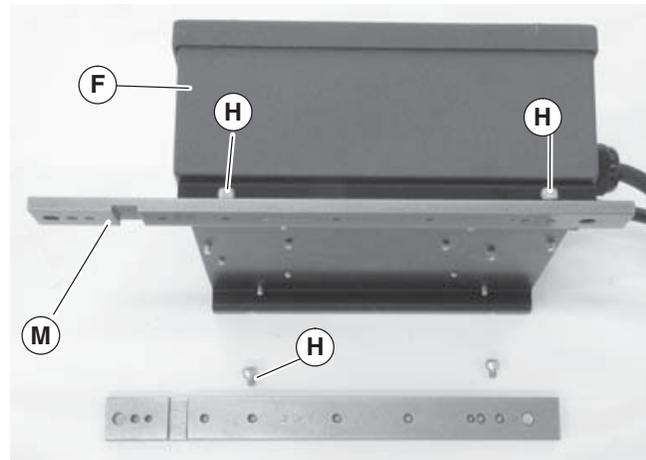

Figure 7
1. Attach mounting bars (Figure 7, item M) to controller (F) with screws (H).